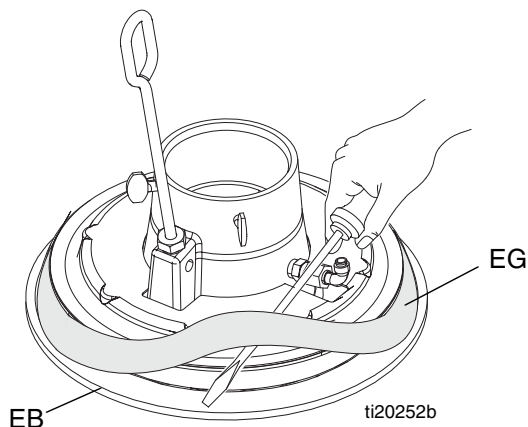

FIG. 13: Installing Spacer
2. Working from the top, use screwdriver to position spacer (EG) between flange and wiper (EB). See FIG. 13.